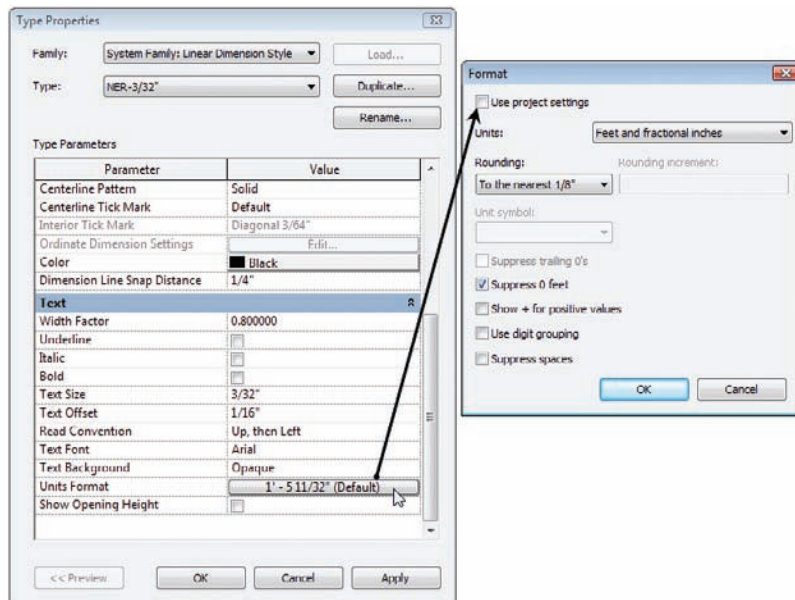

FIGURE 23.17 Customizing your dimensions
9. Check Suppress 0 Feet (see Figure 23.17).